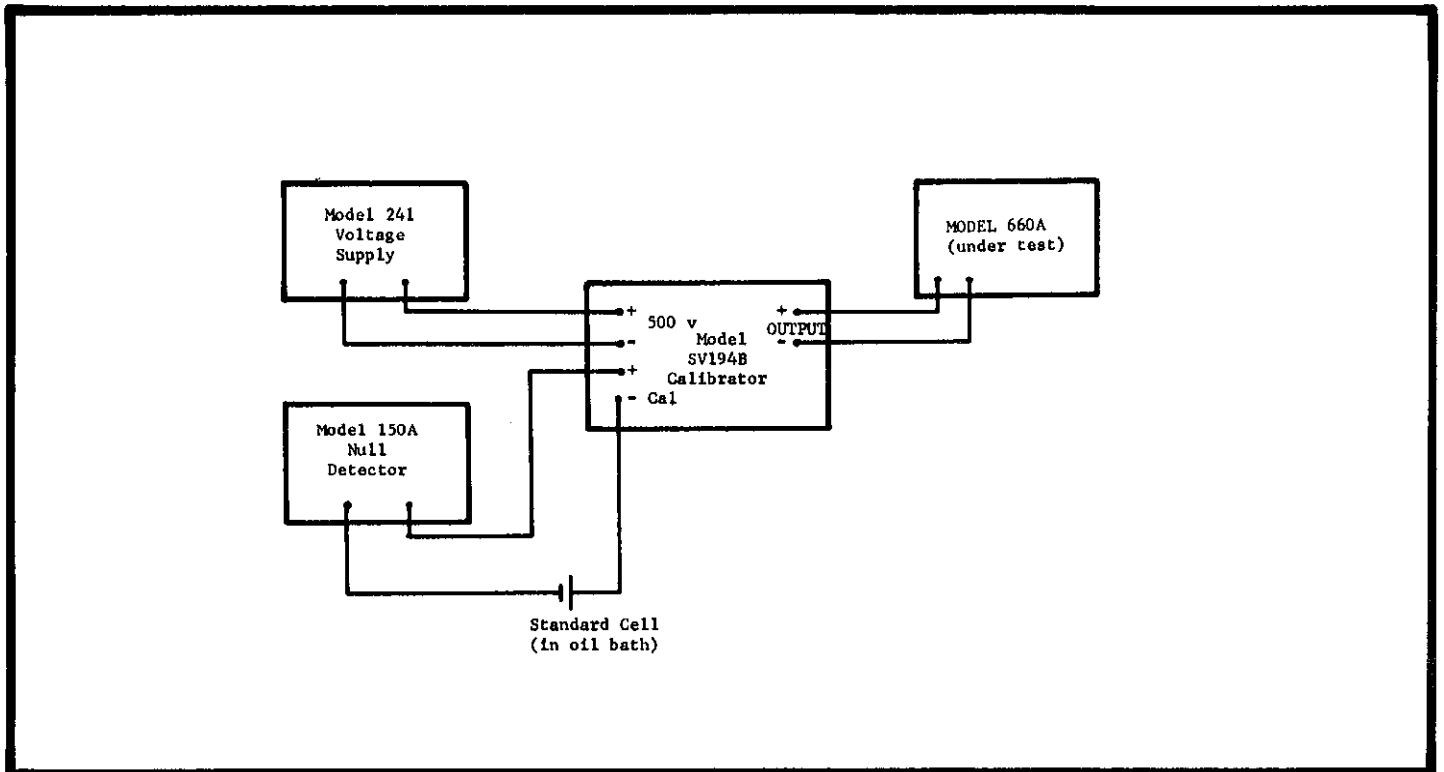

FIGURE 10. Block Diagram for Model 660A Range Calibration. Fully guard the entire system to prevent leakage errors. See Table 5 for recommended equipment.
1. Set up the system shown in Figure 10. The standard cell should be certified to 10 ppm. Use the dial correction factors found for each output. If the system accuracy was properly determined, the input voltage to the Model 660A should be correct to 20 ppm.